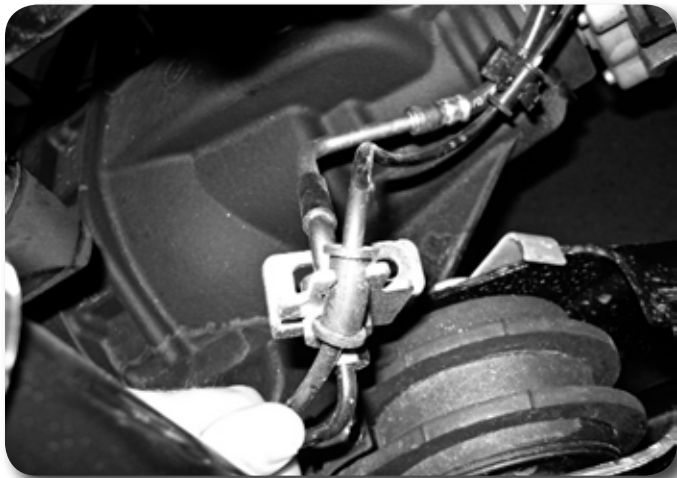

Figure 3
5. Disconnect the brake line brackets from the top of the radius arm mount on the front axle. (Fig 3)